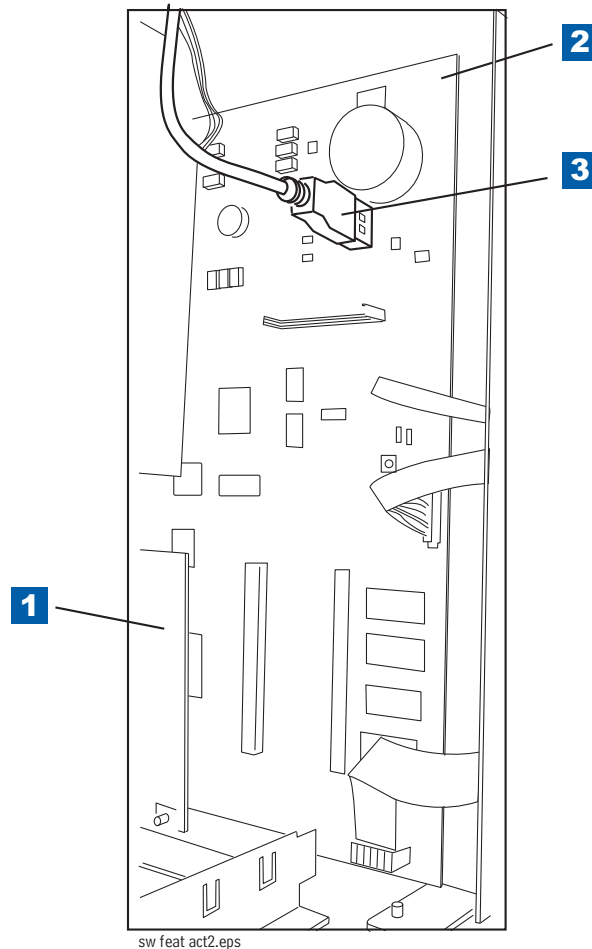

Figure 14. Locating Printer's USB connector
5. Disconnect the Printer's USB cable from its connector on the CPU board and insert the USB Adapter into the CPU USB connector as shown in Figure 14 below.
LEGEND FOR NUMBERED BOXES IN Figure 14
4. Disconnect the Printer's USB cable from its connector on the CPU board and insert the software thumb drive into the CPU USB connector as shown in Figure 14 below.